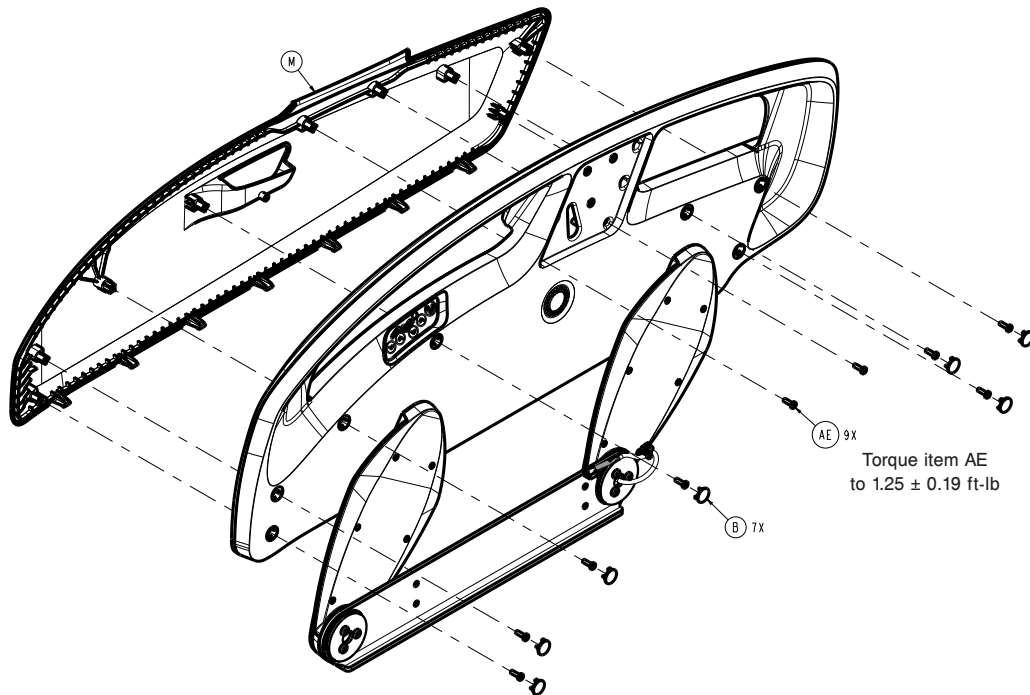

Figure 52 – Replacing the siderail control board
6. Using a pick, remove the seven screw covers (B) from the inside of the siderail (Figure 52). Discard the screw covers.
9. Using a T25 Torx driver, remove the nine screws (AE) that secure the head cover (M) to the siderail assembly (Figure 52). Save the screws. Remove and save the outer siderail panel.
- Using a pick, remove the seven screw covers (B) from the inside of the siderail (Figure 52). Discard the screw covers.
- Using a T25 Torx driver, remove the nine screws (AE) that secure the head cover (M) to the siderail assembly (Figure 52). Remove the outer siderail panel.